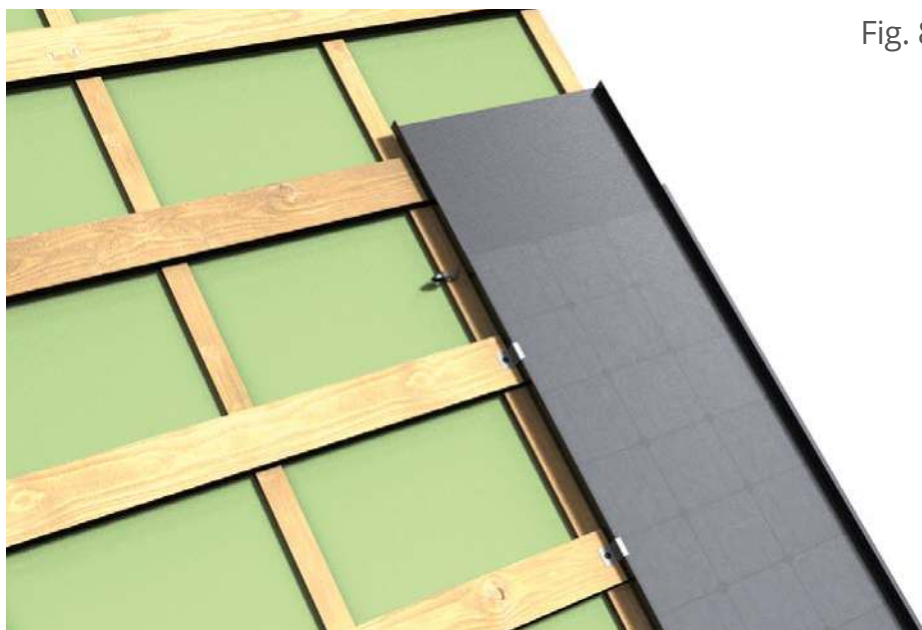

Fig. 8
**3.6** After placing the bottom part on the rain gutter, **higher lock (right side) of the first column will be fastened by using fastening clamps to the battens.** The clamps will be laid in approximately every 400 mm (Fig. 8).
**3.7 Left side of the first column** and upcoming Roofit.solar or regular metal panels must also be fastened to the battens **by fastening clamps that lay every 400 mm** after ensuring the junction box cable must be accessible later (Fig. 8).